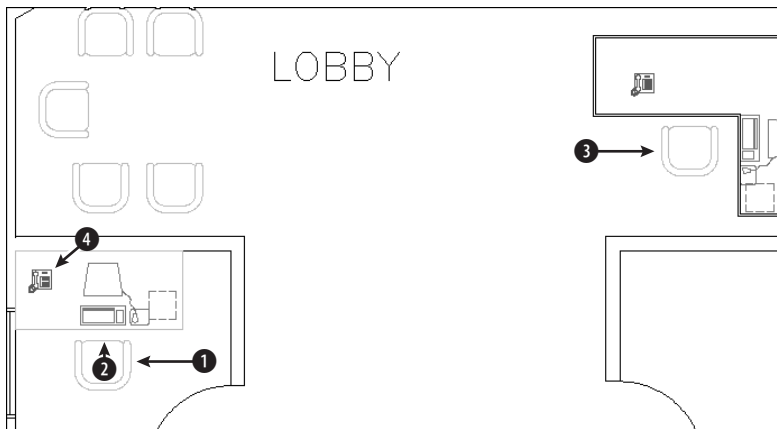

Figure 18-26: An office building plan layout
2. Save the file as `ab18-09.dwg` in your AutoCAD Bible folder. This is a portion of an office building plan layout, shown in Figure 18-26.
3. Choose `Modify` ⇨ `Object` ⇨ `Attribute` ⇨ `Single`. At the `Select a block:` prompt, pick the chair at ❶ in Figure 18-26. In the Enhanced Attribute Editor, change the date purchased to 4/97. Notice that the manufacturer is American Office Furniture. Because these attributes are invisible, you can't see the result in the drawing. Click OK.
6. Choose Explode from the Modify toolbar and select the chair at ❶ in Figure 18-26. The attributes reappear. Choose Draw ⇨ Block ⇨ Define Attributes. Create an invisible attribute with a tag and prompt of Color and a value of Dusty Blue. Click Pick Point and pick a point underneath the other two attributes of the armchair. (Exact placement is not important.) Choose OK.
8. Choose Insert Block. In the Insert dialog box, choose **armchair** from the Name drop-down list. With Specify On-Screen checked only for Insertion Point, click OK. Insert the chair at ❷. In the Enter Attributes dialog box, click OK to accept the values.
9. To verify that AutoCAD has redefined the block elsewhere, choose Modify ⇨ Object ⇨ Attribute ⇨ Single. Select the block at ❸. Notice that the Color tag has been added with a value of Dusty Blue. Click OK to accept the values.
10. Use Zoom Window to zoom in closely to the telephone at ❹ in Figure 18-26. The telephone has a visible attribute of the phone number. The number is so small that it cannot usually be seen and so does not interfere with the drawing.